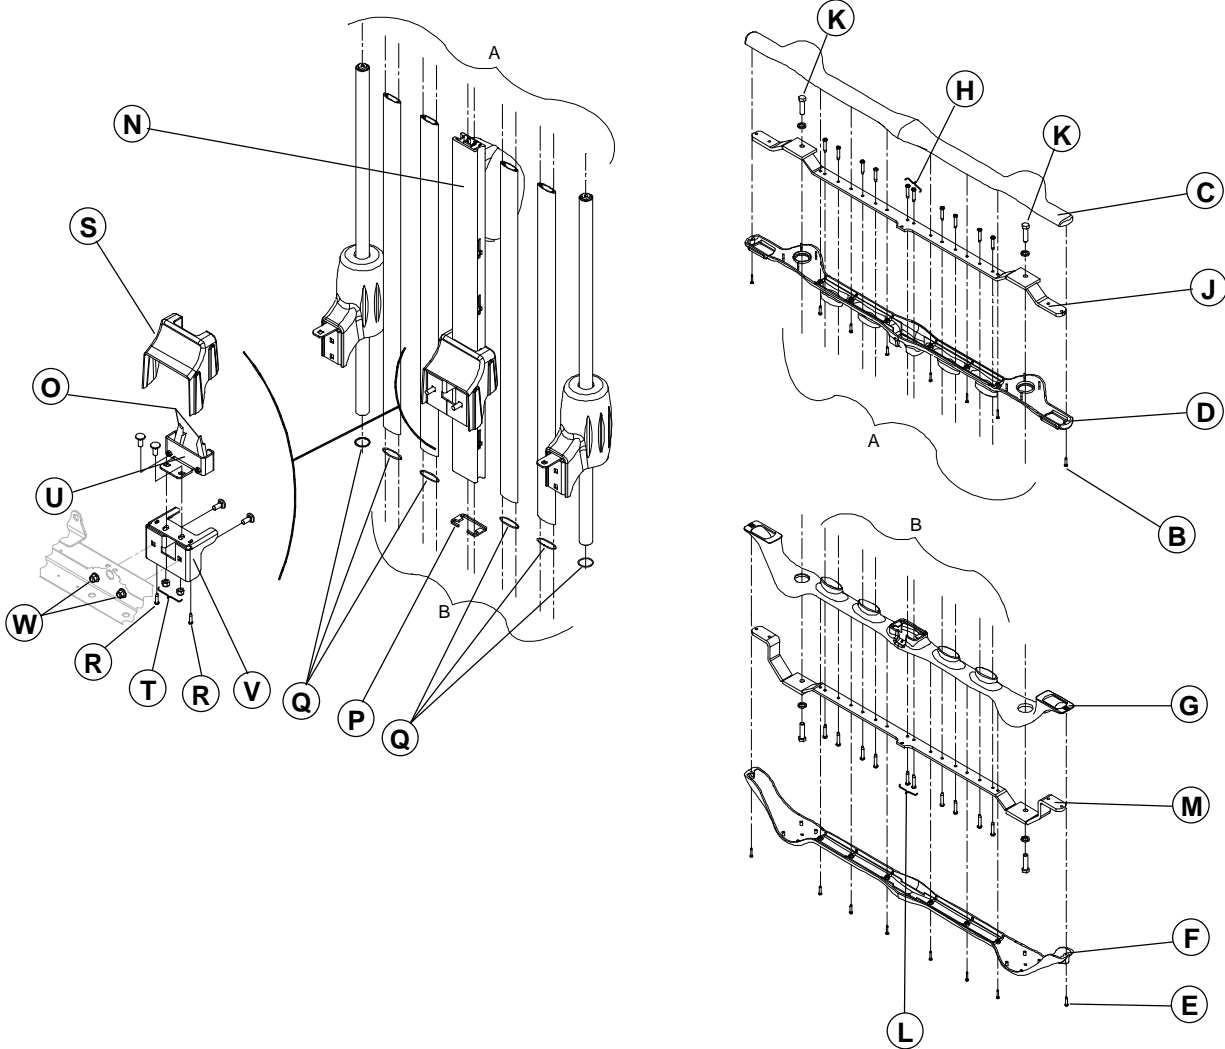

Figure 3.14B
Unless otherwise stated, reference letters contained in the following procedure will refer to figure 3.14B, page 32.
4. Using a Phillips screwdriver, remove the eight screws (D, fig. 3.14B, page 32) holding the rail bottom plastic cover to its upper counterpart. If working on a siderail, open the access doors to reach the last screw on each end of the upper plastic cover. Note that on a siderail with fixed access doors, these two last screws are not present.